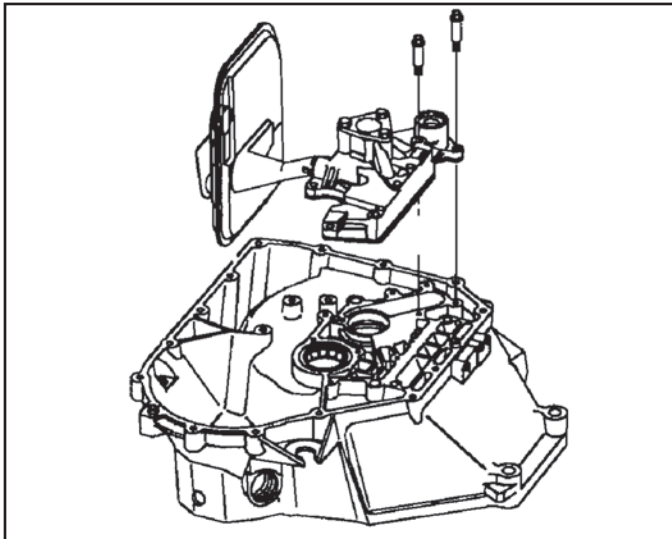

Figure 154
16. If installing a new internal filter, transfer the magnet and retaining spring from the old filter. Remove the old seal from the pump housing and install a new seal and filter (See Figure 154).
17. Install the pump and filter assembly. Make sure all components are clean. Use care not to allow the pump drive gear to catch or scratch the converter housing surface (See Figure 154).